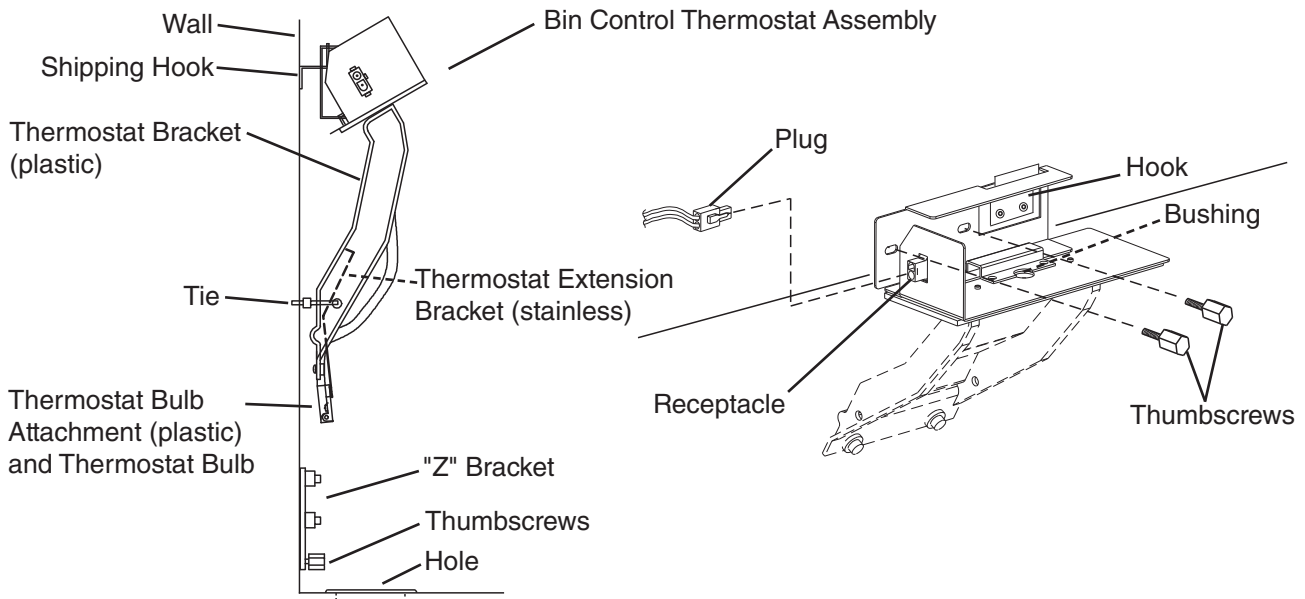

Fig. 3
- c. Remove the bin control thermostat assembly from the shipping hook by lifting it up and shifting it to the right. Lower the thermostat extension bracket (stainless) with the thermostat bulb attachment and thermostat bulb through the hole located at the bottom of the icemaker. Next, lower the thermostat bracket (plastic) through the hole. See Fig. 3.
- f. Insert the plug into the receptacle on the assembly until it locks into place. See Fig. 3.